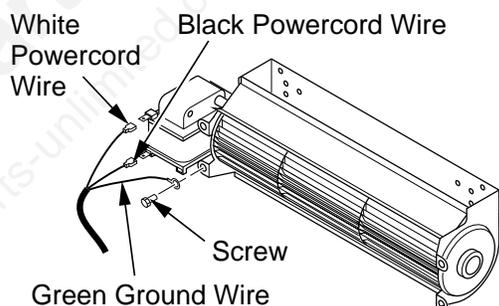

Figure 14 - Removing Wires from Blower
3. Disconnect power cord wires from blower motor (if connected) (see Figure 14).
4. Disconnect green ground wire from blower housing (if connected) by removing screw holding wire terminal (see Figure 14).
10. Attach the terminal ends of the white and black power cord wires to the terminals on the blower motor (see Figure 14). Push firmly.
11. Attach the terminal end of the green power cord wire to the front tab of the blower housing using screw provided (see Figure 14).